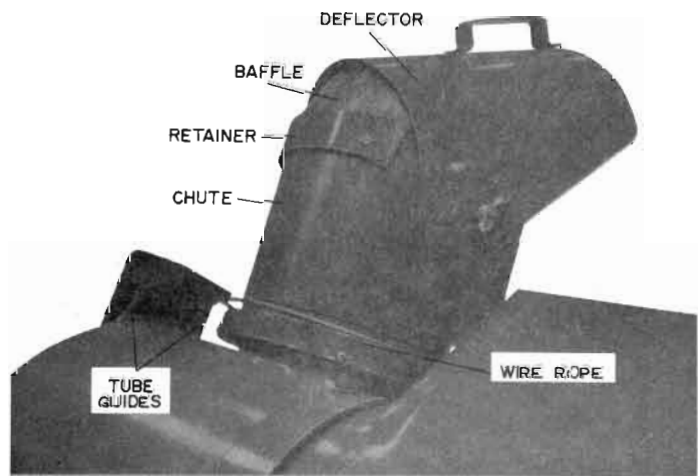

fig 4
10. Put a flatwasher, lockwasher, and wingnut on the adjusting stud, items 15, 91 and 92. Make the wingnut finger tight, fig 4.
11. Crank fan housing to maximum left position; discharge chute will rest on frame. Chute/deflector assembly should point to exact left. If adjustments need to be made, loosen cable hold-down bolt (item 100) to make adjustments, and re-tighten.